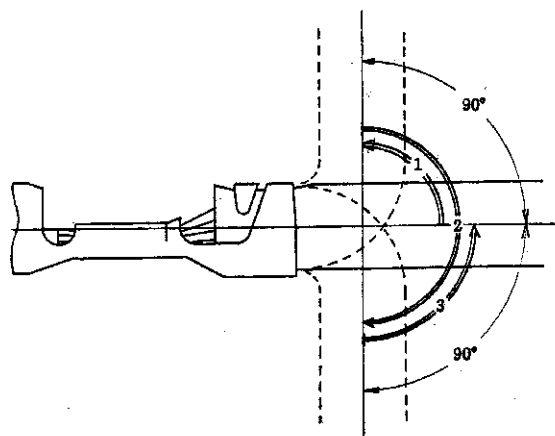

Fig. 2
- *2 Crimping height and width of insulation barrel shall not result in the drawing from the barrel part by excessive crimping height, width or drawing from the barrel part by the broken over in the bending test as shown in Fig. 2.